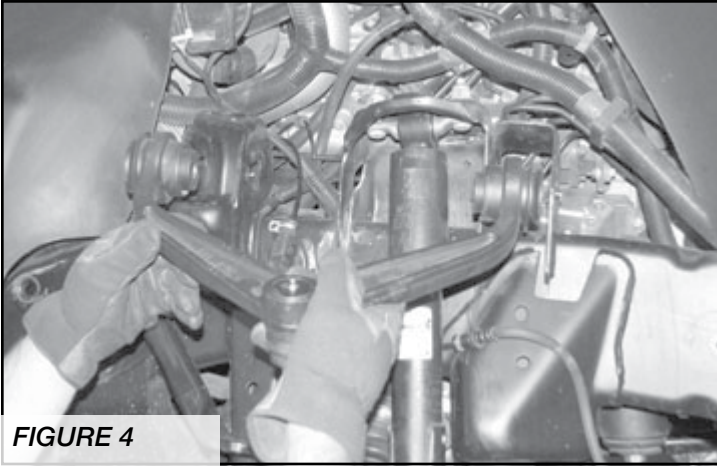

FIGURE 4
8. Remove the upper control arm. Retain the factory hardware. **SEE FIGURE 4**